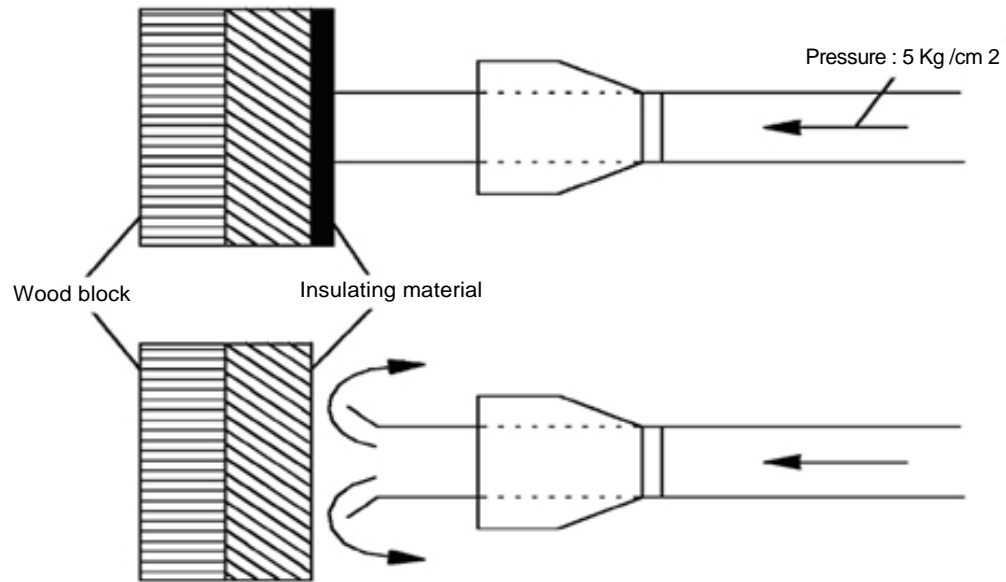

Fig 6 3 : Flushing sketch map for refrigerant pipes
- ① Block the mouth of the main gas pipe with insulating material in hand ;
- ② When the pressure is too high to block the mouth , take it away quickly (for the first flushing) ; And block the mouth again (for the second flushing) , see Fig 6 3 :